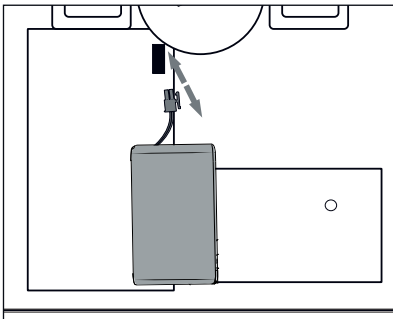

Fig. 17
- 2) Disconnect the plug connection of the battery (see Fig. 17 and 18), and remove it from the battery compartment.